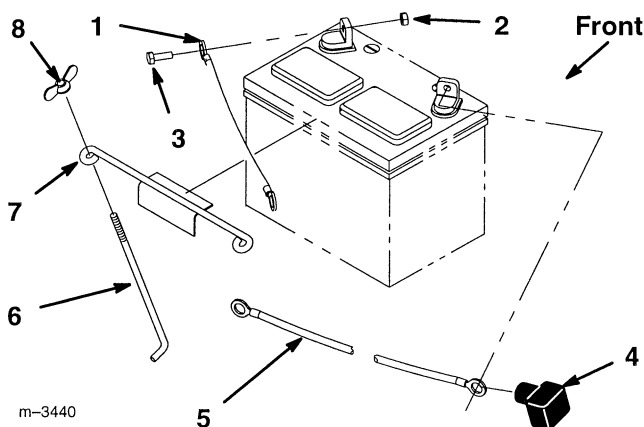

Figure 34
3. Disconnect the negative (black) ground cable from the battery post (Fig. 34).
4. Lift the red rubber cover up on the positive cable. Disconnect the positive cable (red cover) from the battery post (Fig. 34).
5. Remove the battery hold down rods (Fig. 34). Lift battery from tractor
6. Install the battery into the chassis (Fig. 34).
7. Secure battery in chassis with hold down rods and wing nuts (Fig. 34).
8. Using the bolt and locknut, connect the positive (red cover) cable to the positive (+) battery post (Fig. 34). Slide the rubber cover over the battery post.
9. Using the bolt and locknut, connect the negative (black) cable to the negative (-) battery post (Fig. 34).